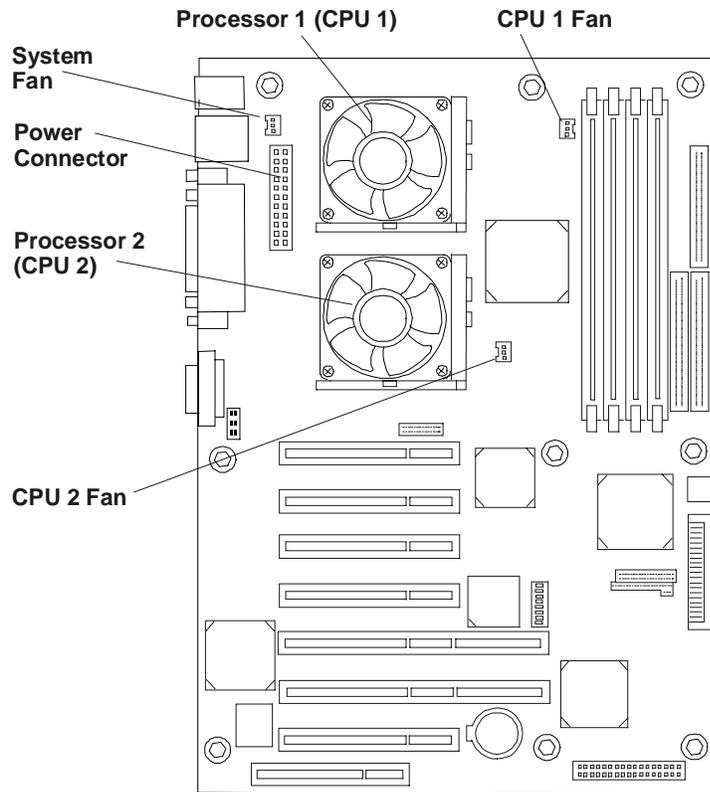

Figure 6-1. System Board
4. Connect the heatsink's cooling fan connector to the 2nd cooling fan connector (CPU 2 Fan) on the system board. See Figure 6-1.
1. Disconnect the cooling fan connector from its respective cooling fan connector on the system board. See Figure 6-1.